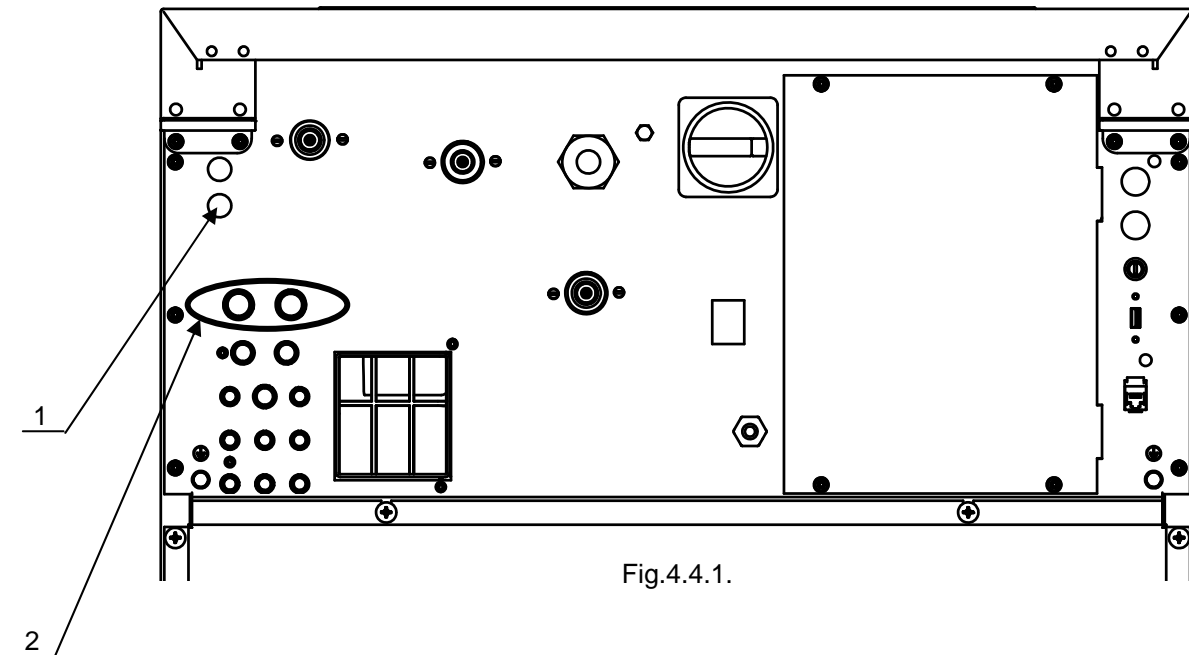

Fig.4.4.1.
- at the back of the machine, fully perforate the partially perforated opening (pos.1) in the rear cover - see fig. 4.4.1. Fit a cable bushing (provided with the machine) into the opening.